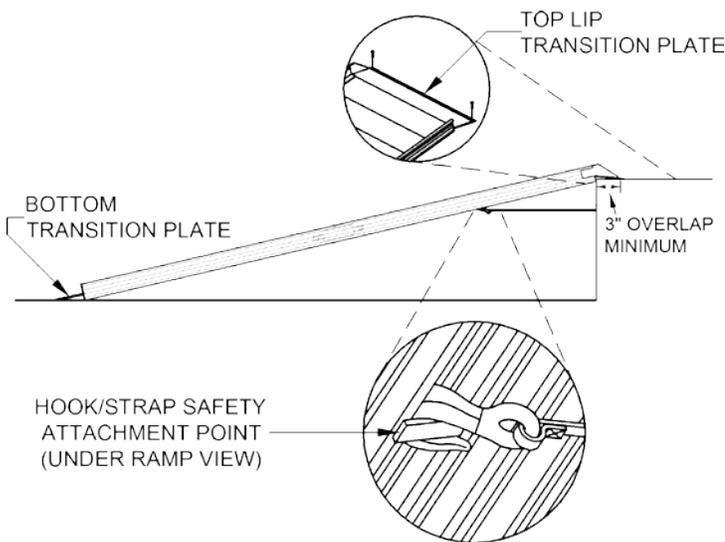

FIG. 1
- Ramp is equipped with a hook/strap safety attachment point underneath the upper portion of ramp as a method of securing ramp when in use (see FIG. 1). Use a strap, chain, or rope (not supplied) to attach the ramp to a vehicle or other structure when in use to prevent the top lip transition plate from slipping off the supporting surface.
- If the ramp is in a location that will not allow use of the hook/strap safety attachment point, secure top lip transition plate of ramp to supporting surface with clevis pins (or similar fasteners) to prevent top lip transition plate from slipping when in use. Drill two ¼" diameter holes through the top lip transition plate into supporting surface to a depth of 1" (minimum). Secure top lip transition plate by placing two ¼" x 1" clevis pins through the drilled holes and into the supporting surface (see FIG. 1).
- ⚠ Do not use ramp if less than 3" of top lip transition plate is overlapping supporting surface (see FIG. 1).